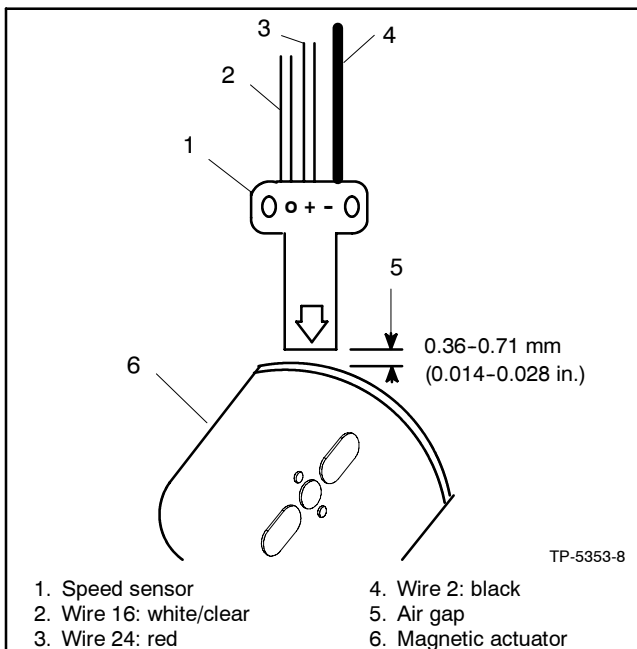

Figure 6-38 Speed Sensor Air Gap
8. Connect the speed sensor leads and adjust the air gap. See Figure 6-38.